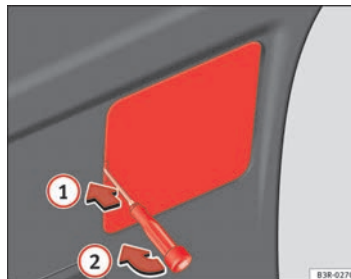

Fig. 233 Remove the cover of the tailgate trim
- Insert the screwdriver into the opening in the cover ⇒ page 281, fig. 233 ① and detach the cover ②.